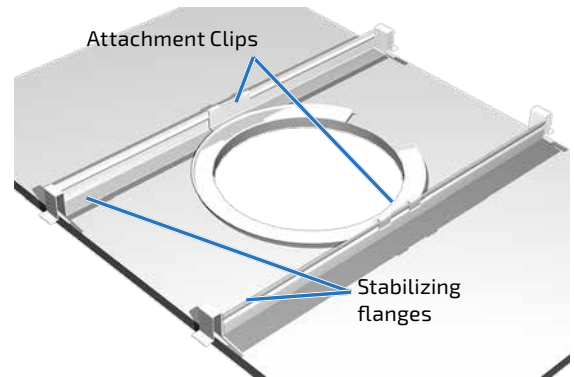

Figure 8. Installing a C-ring support plate onto tile bridge support rails
2. Insert the bridge support rails through the can cutout and position them across the rails on either side of the cutout, approximately as far apart as the clips on the C-ring support plate. See Figure 8.
3. Guide the C-ring support plate through the cutout hole and position it centered in the hole and aligned so its attachment clips are closest to the tile bridges you just placed. Slide these bridges as necessary so the C-ring clips can be pressed onto the raised rail ribs, and now snap the C-ring clips onto the rails (Figure 8).
**B.** An alternative method for new installations – where the ceiling has already been completed – is to use the C-ring Support Plate along with the Tile Bridge Support Rails. While there are in fact not going to be truss members across which the rails fit, nonetheless they will distribute the weight of the loudspeaker assembly across a greater area than the C-ring Adapter alone and will thus avoid sagging that might otherwise occur over time. Cut the hole using the provided template. It is then easy to pass the Tile Bridge Support Rails through the cutout and snap the C-ring Support Plate on top of them. Refer to Figure 8 and to Figure 11.